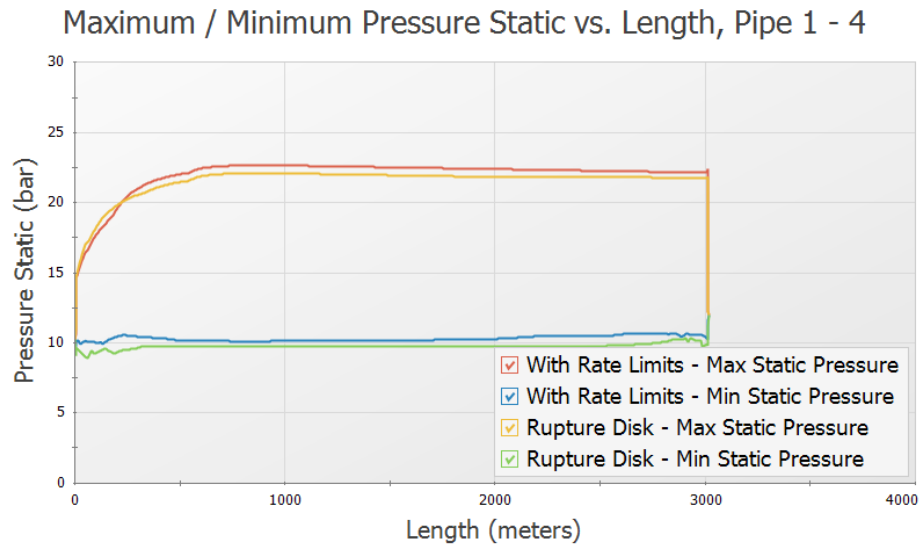

Figure 16: Comparison of maximum and minimum pressures with the passive and rupture disk relief valve types
4. Click Generate to incorporate the additional scenario (Figure 16)